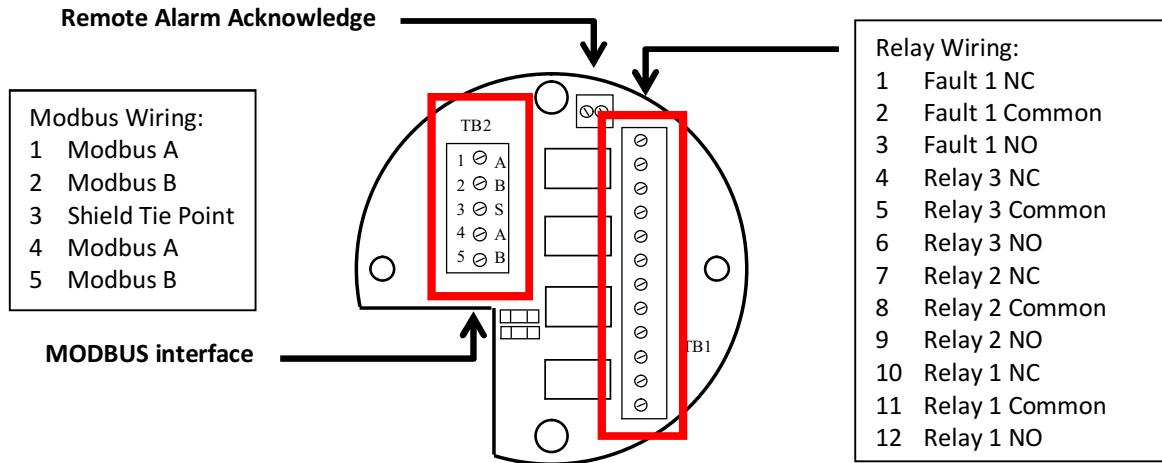

Figure 5-3: RELAY / MODBUS Connections
Access to each MODBUS RS-485 interface is via TB2 on the optional Relay / MODBUS board mounted on the back of the GASMAX CX display module (See Fig. 5-3). Separate input and output terminals for MODBUS “A” and “B” signals are available. A center terminal to tie incoming and outgoing shield connections is also provided.
MODBUS system architecture requires that the devices in any MODBUS loop be connected in a daisy-chain layout. This minimizes signal reflections and improves signal noise margin. A MODBUS Termination Jumper installs a load resistor across the MODBUS signal lines and should only be set to “A” (ON) at the last device in the string (See Fig. 5-3).